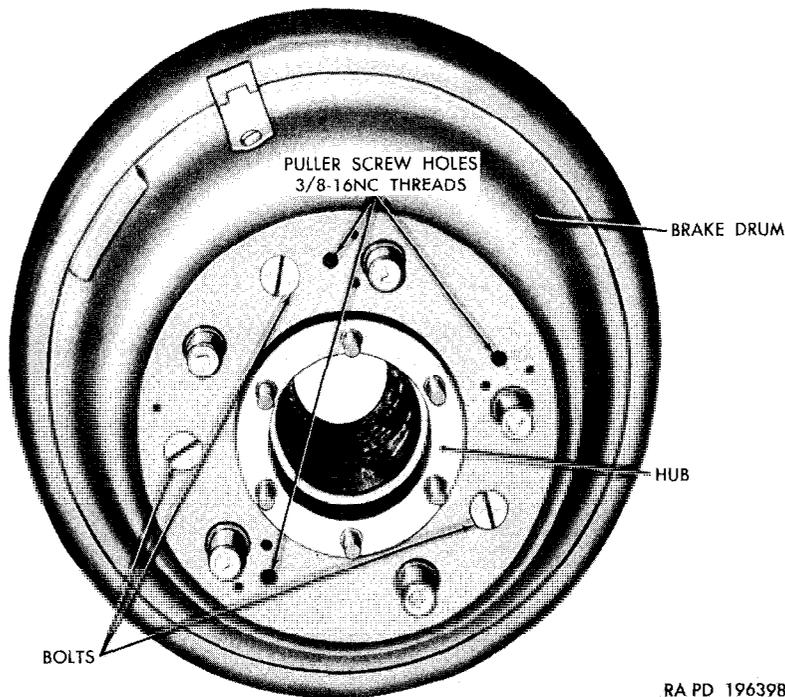

Figure 184. Brakedrum and hub.
- (1) Remove the wheel and tire (par. 227a).
- (2) Remove the three bolts that secure the brakedrum to the hub (fig. 184), using a broad-bladed screwdriver. If the bolts are corroded, strike the screwdriver with a hammer to shock each bolt, being careful not to damage the bolt slots.
- (3) Install a $\frac{3}{8}$ -16NC x $1\frac{1}{2}$ bolt in each of the three puller screw holes in the drum and turn the three bolts in evenly to force the drum from the hub. If the drum is corroded, strike the puller bolts with a hammer as they are tightened to free the drum from the hub. Remove the drum and remove the three puller bolts.
- (1) Apply a coating of water pump grease to the contacting surfaces of the brakedrum and the hub to prevent corrosion and to facilitate future removal.
- (2) Position the drum on the hub, alining the bolt holes. Install the three $\frac{3}{8}$ -16NC x $\frac{7}{8}$ flathead bolts (fig. 184). Tighten the bolts evenly.